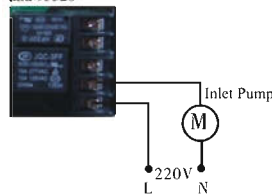

Figure 3-14 Wiring of Inlet Pump Power Less Than 1KW
G. Inlet pump and soft water pump connecting as Figure 3-14/15/16/17 (Only for 93620 and 93520